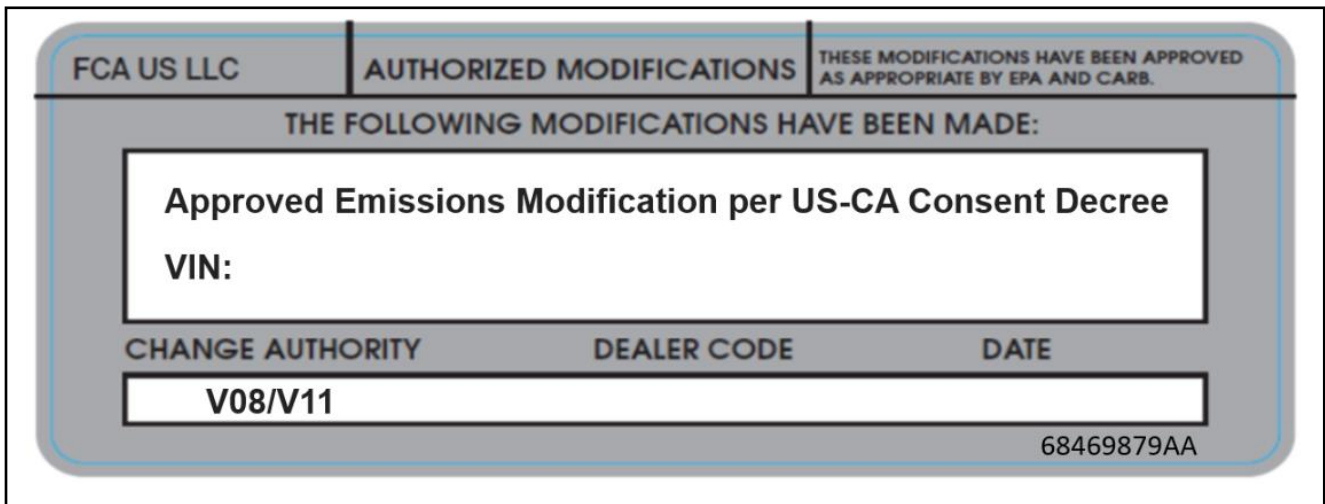

Figure 1 – Complete Label
- 43. Legibly type or print (with a ballpoint pen) the VIN, dealer code and date on the Authorized Modifications Label (Figure 1).